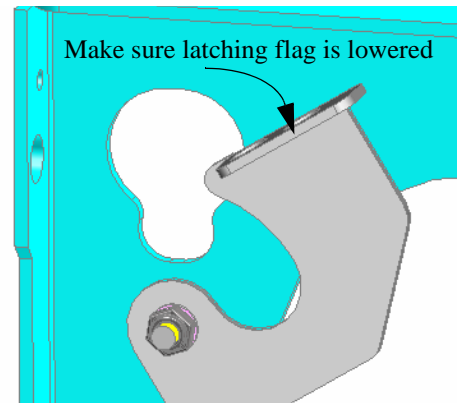

FIGURE 1. LOWER LATCH
2. Before lifting your flat panel display, make sure the latch of the PWS is lowered and will not interfere with mounting the display (see Figure 1).